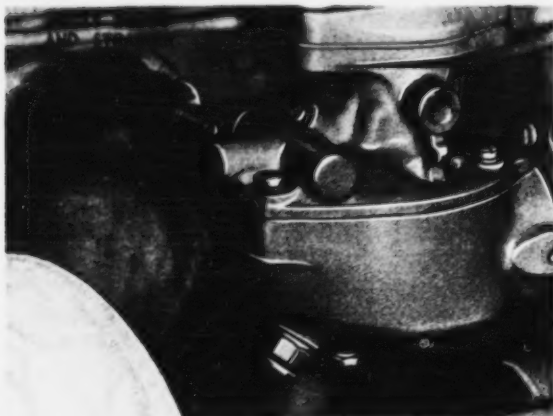

Fig. 19—Carburetor Fuel Strainer
1. Remove the strainer screen from the carburetor (if it has one) (Fig. 19) and clean the screen in solvent or replace it if it is dirty. Reassemble screen.